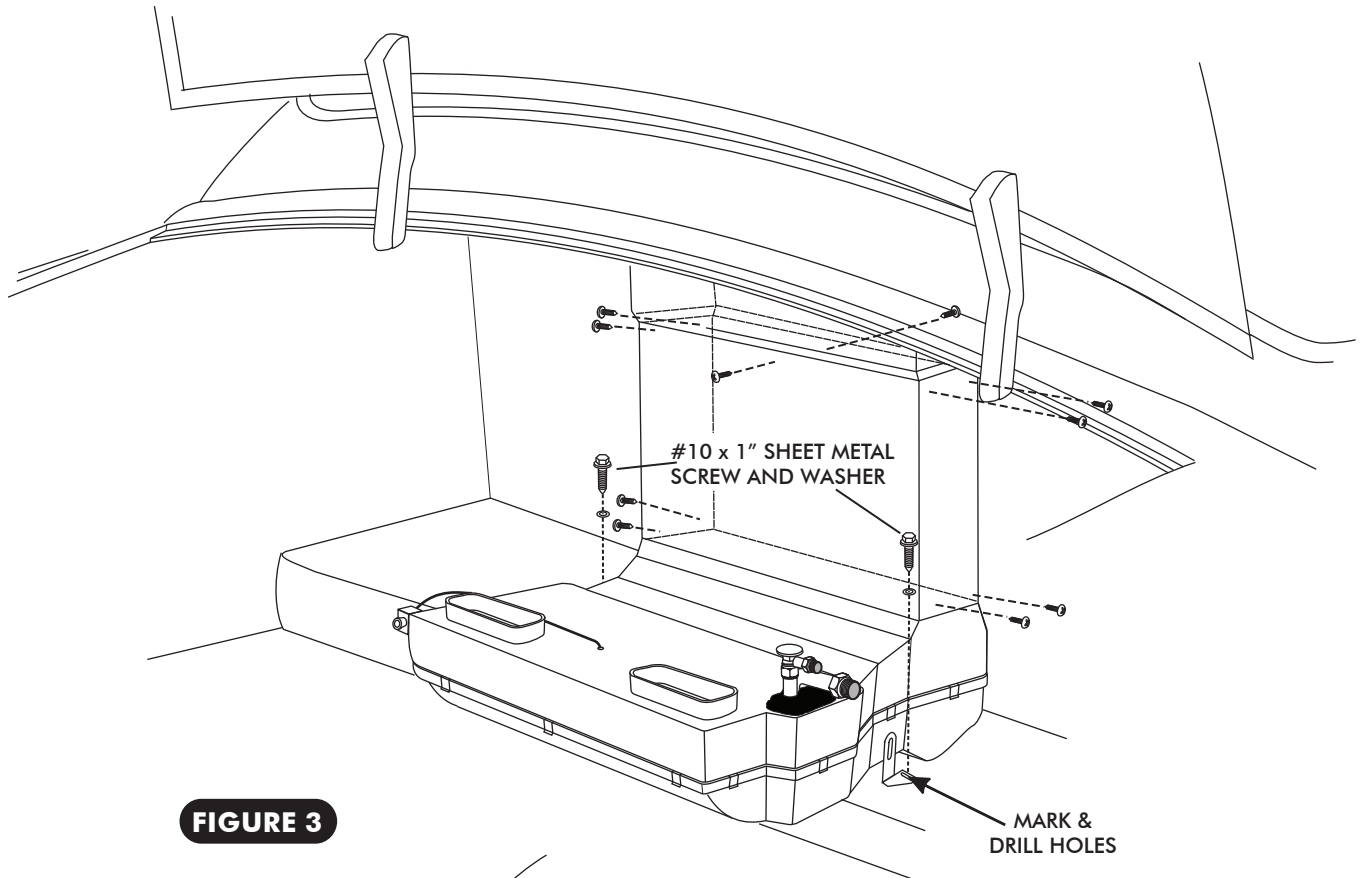

**FIGURE 2**
- PLACE RETURN AIR BEZEL BOTTOM UNDER REAR DECK AND ALIGN WITH RETURN AIR BEZEL TOP (FROM ABOVE REAR DECK) AND SECURE WITH (4) # 8 SCREWS.
- ALIGN SIDE LOUVERS AND MARK MOUNTING HOLES. DRILL PILOT HOLES WITH 1/8" DRILL BIT AND SECURE WITH #8 SCREWS (SEE FIGURE 2, BELOW).
- ONCE IN PLACE AND CERTAIN THERE ARE NO OBSTRUCTIONS UNDER THE FLOOR OF TRUNK, MARK THE MOUNTING HOLES THROUGH BRACKETS (SEE FIGURE 2, BELOW).
- ALIGN THE EVAPORATOR WITH HOLES IN TRUNK AND SECURE WITH (2) #10 x 1" SHEET METAL SCREWS AND WASHERS PROVIDED.